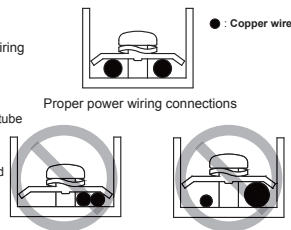

Figure 7.4
- Do not connect two power cords with different diameters to the same power supply terminal (may cause overheating of wires due to loose wiring) (See Figure 7.4).